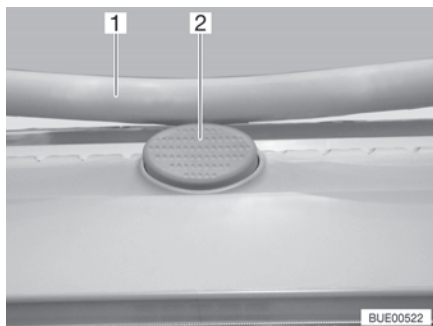

Fig. 20 Safety knob (Heki skylight)
- Press the safety knob (Fig. 20,2) and pull the bar (Fig. 20,1) down with both hands.
- Push the bar upwards with both hands until it is above the safety knob (Fig. 20,2).